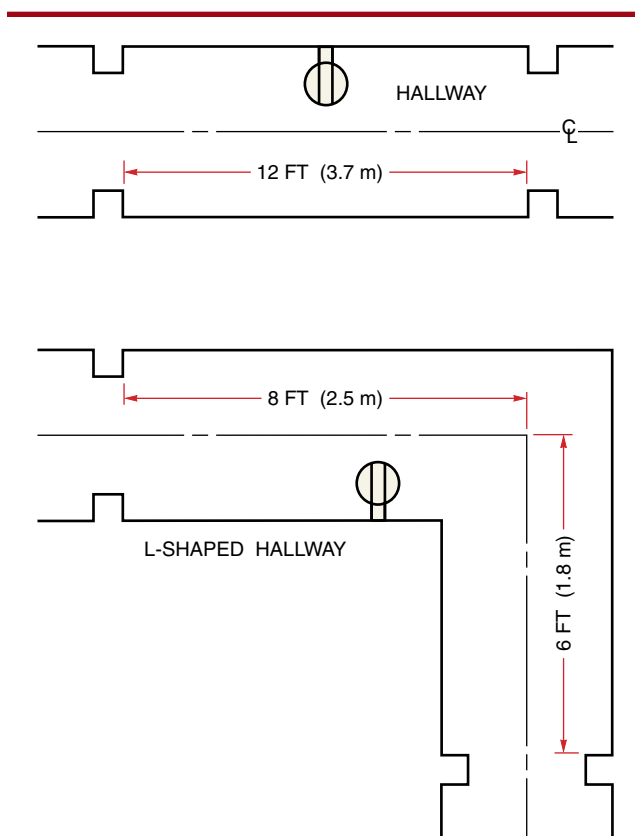

Figure 3-5 Determination of hallway length. Hallways 10 ft (3.0 m) or longer must have at least one receptacle outlet, 210.52(H).
- Hallways 10 ft (3.0 m) or longer in homes must have at least one receptacle outlet, 210.52(H). See Figure 3-5.